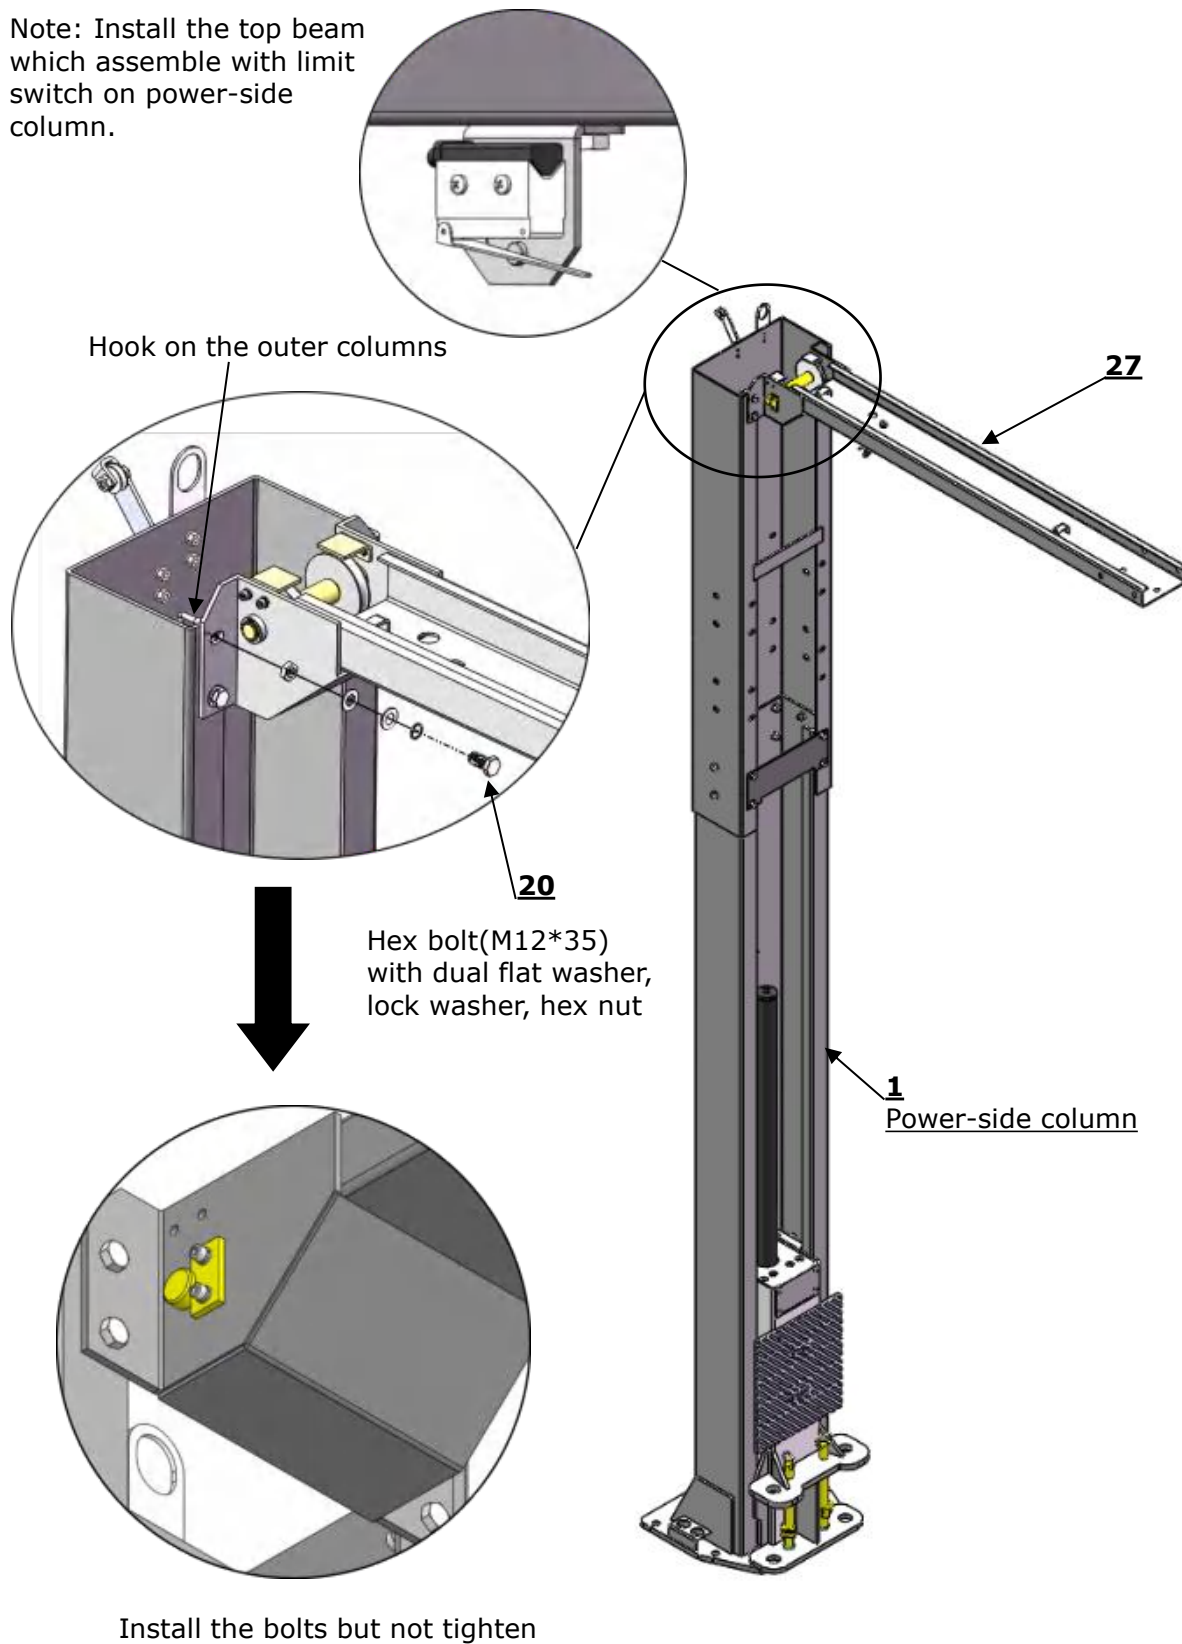

Fig. 24
1. Hang the hook of top beam(Assemble with limit switch) on the power-side outer column, and then align the holes and install the bolts. (See Fig. 24)